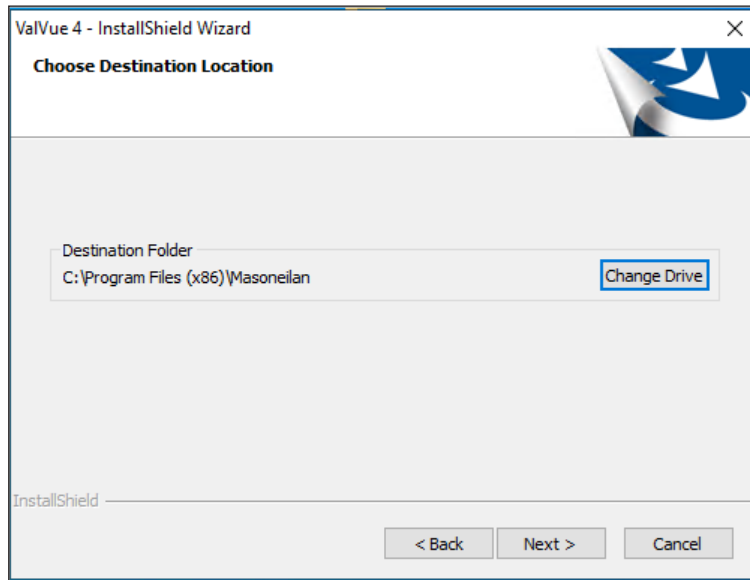

Figure 6 - Choose Programs for Installation
5. Click **I accept the license.....**, **Next** and Figure 6 appears.